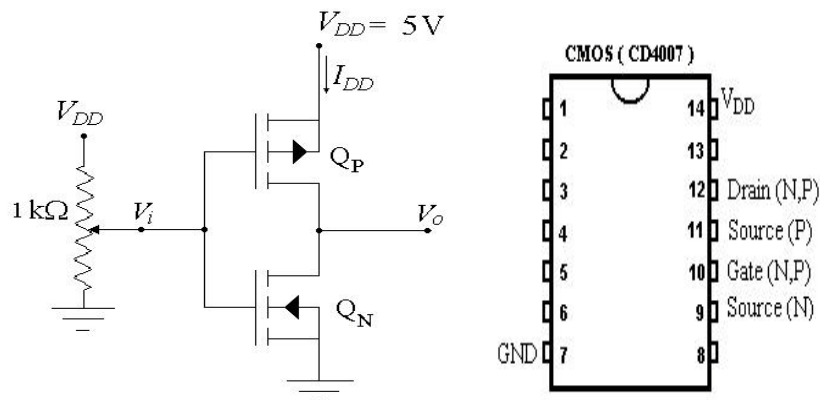

Figure 1: CMOS inverter and IC Chip (CD4007).
The CMOS Inverter is shown in figure 1. It consists of an N-channel MOSFET and a P-channel MOSFET. The input is applied to the two gates. The substrate of each transistor is connected to the source, and therefore no body effect for both transistors. When V_i is high, Q_N is ON and Q_P is OFF. The output is low and $V_{OL} \approx 0$ (typically less than 10mV). If V_i is low, Q_N is OFF and Q_P is ON. The output is high with $V_{OH} \approx V_{DD}$ (typically less than 10mV below V_{DD}). Since the inverter current is zero in each case, the static power dissipation is zero (typically a fraction of μW).
- 1- **Connect** the circuit shown in Figure 1. **Set** the supply to 5V.